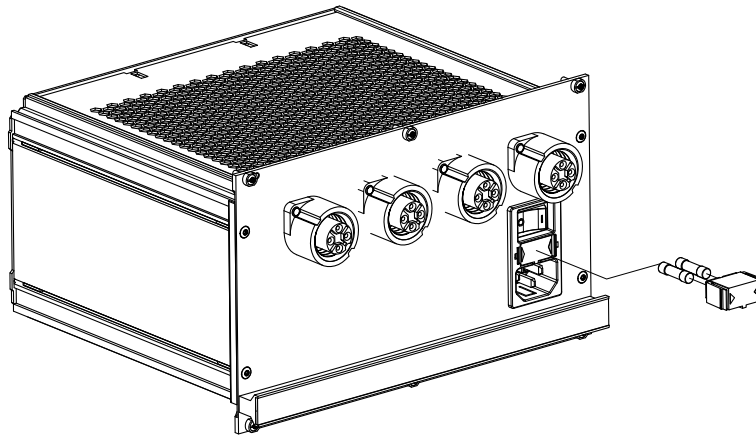

Figure 2.2.: Exchange of fuses on the Photonic Professional Controller
The Photonic Professional (GT) has two main fuses in the Photonic Professional Controller. For accessing the fuse please power down the system as described in 2.8.2 and open the back panel of the electronics rack. The fuses are located in the back of the Photonic Professional Controller. Figure 2.2 illustrates how to exchange the fuse. Please make sure to use fuses of this type: 5 A T
If one of the fuses blows, the cause should be identified and any technical defect remedied before replacing the fuse. Prior to changing any fuse make sure that the Photonic Professional Controller is turned off and that the mains power plug is disconnected. Open the spring loaded fuse carrier. Replace the defective fuse and reinsert the carrier as shown in figure 2.2.